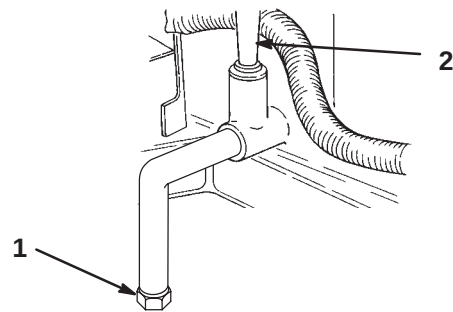

Figure 17
3. Place a pan below the oil drain pipe and remove the drain cap (Fig. 17).